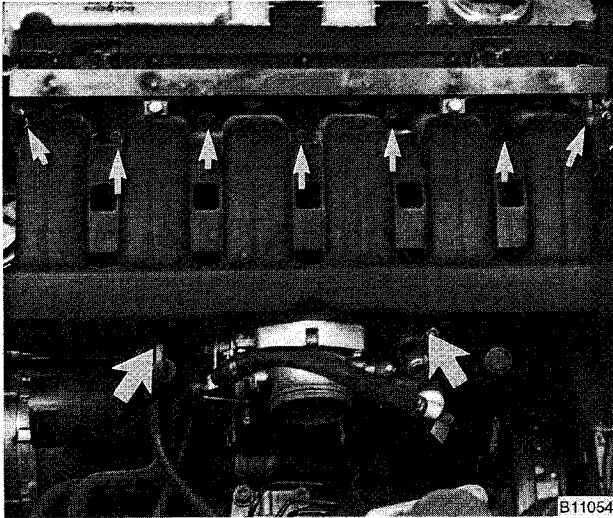

Fig. 12. Intake manifold mounting nuts on 6-cylinder engine. Also remove two bolts from support brackets (**arrows**).
16. Remove intake manifold from engine by removing seven mounting nuts from above and two mounting bracket bolts from below. See Fig. 12.